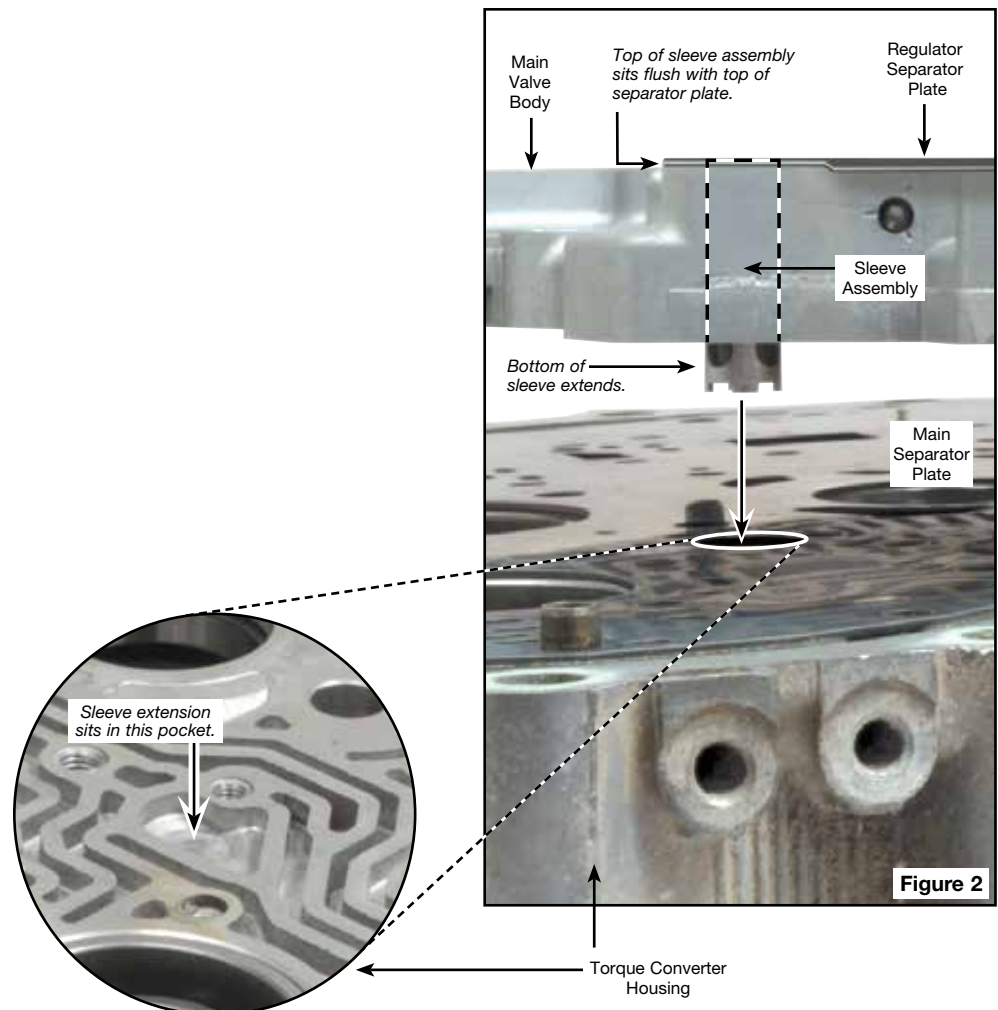

Figure 2
NOTE: Sonnax TC check valve and sleeve assembly is designed to fit in main valve body, but will extend into the torque converter housing as well (**Figure 2**, page 2). Once main valve body and regulator valve body are assembled to the torque converter housing, sleeve should occupy the entire height between those castings.
- g. Install regulator body, ensuring spacer remains in place. Use the regulator body to push sleeve, valve and spacer assembly the rest of the way into the bore. When completely installed, sleeve will extend into the torque converter housing (**Figure 2**).